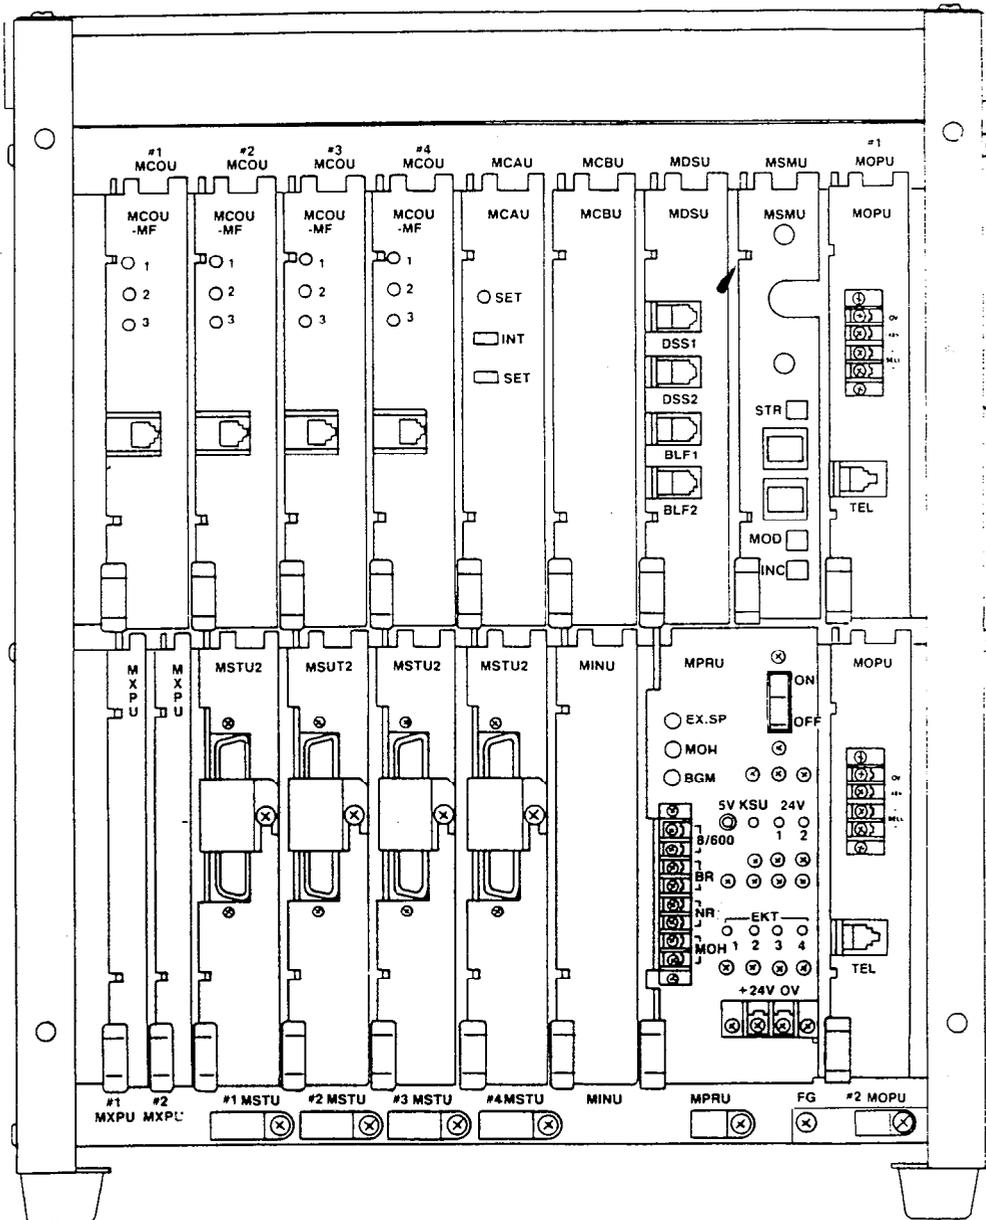

FIGURE 3—STRATA XII MKSU (Interior)
02.02 The STRATA XII MKSU (Figure 3) contains two shelves with spaces to accommodate up to 18 printed circuit boards (PCBs).